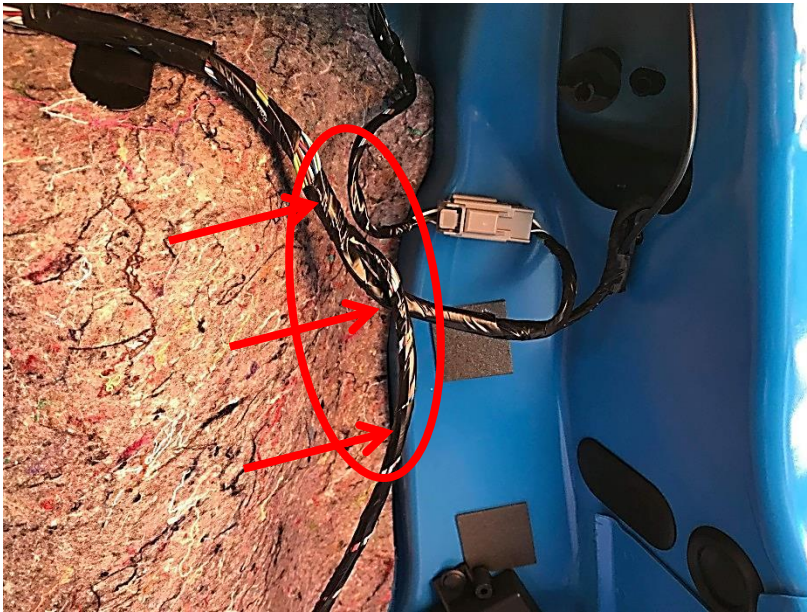

Figure 5
1. Carefully remove the insulation tape from around the main wiring loom coming from behind the rear seats and over the wheel arch towards the rear lights and boot floor (Fog light location). Note: The wires in this loom are now referred to as “Wiring Loom Side” (See Figure 5)